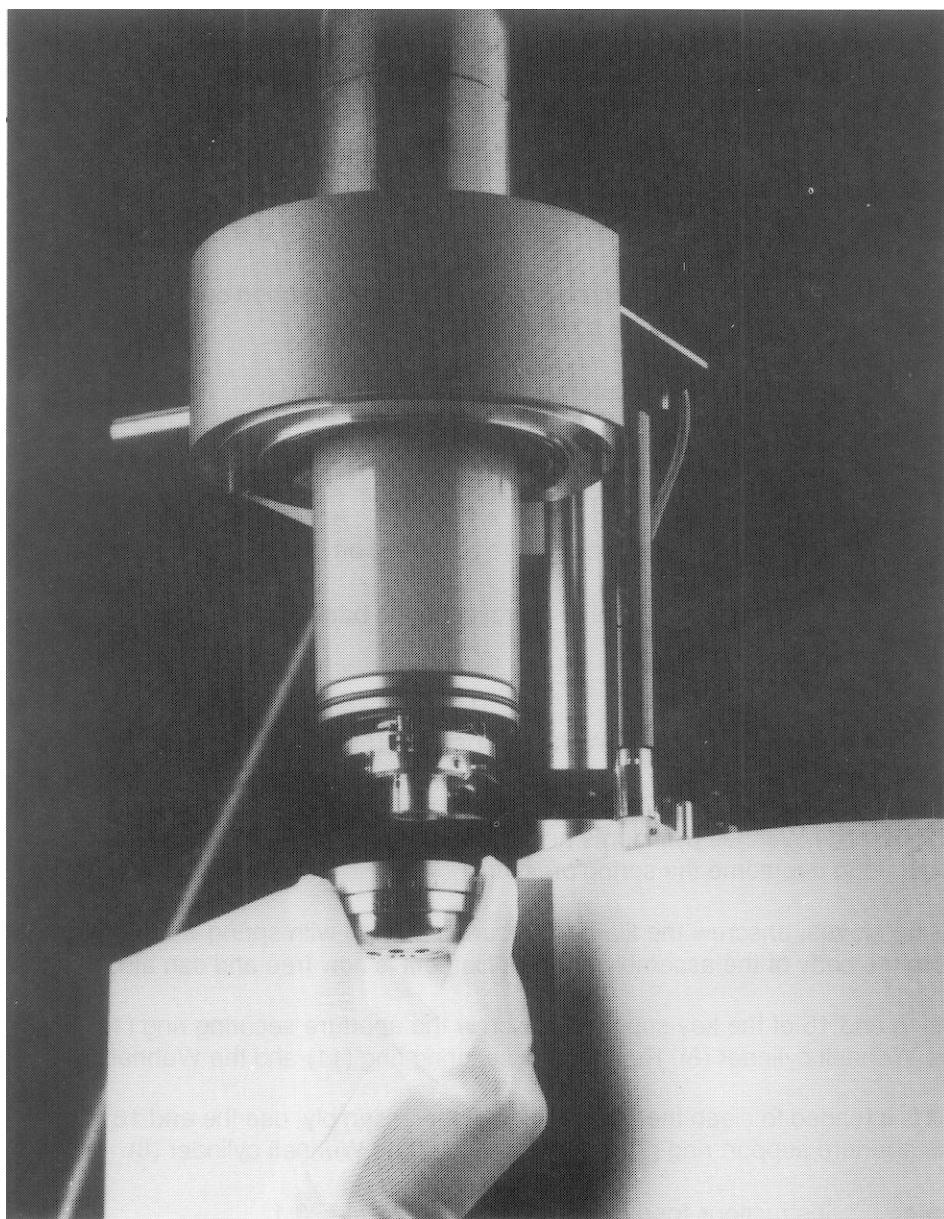

Fig. 4.10, Dismounting and remounting the Wehnelt assembly
4.4.2 Dismounting the Wehnelt assembly (Fig. 4.10)